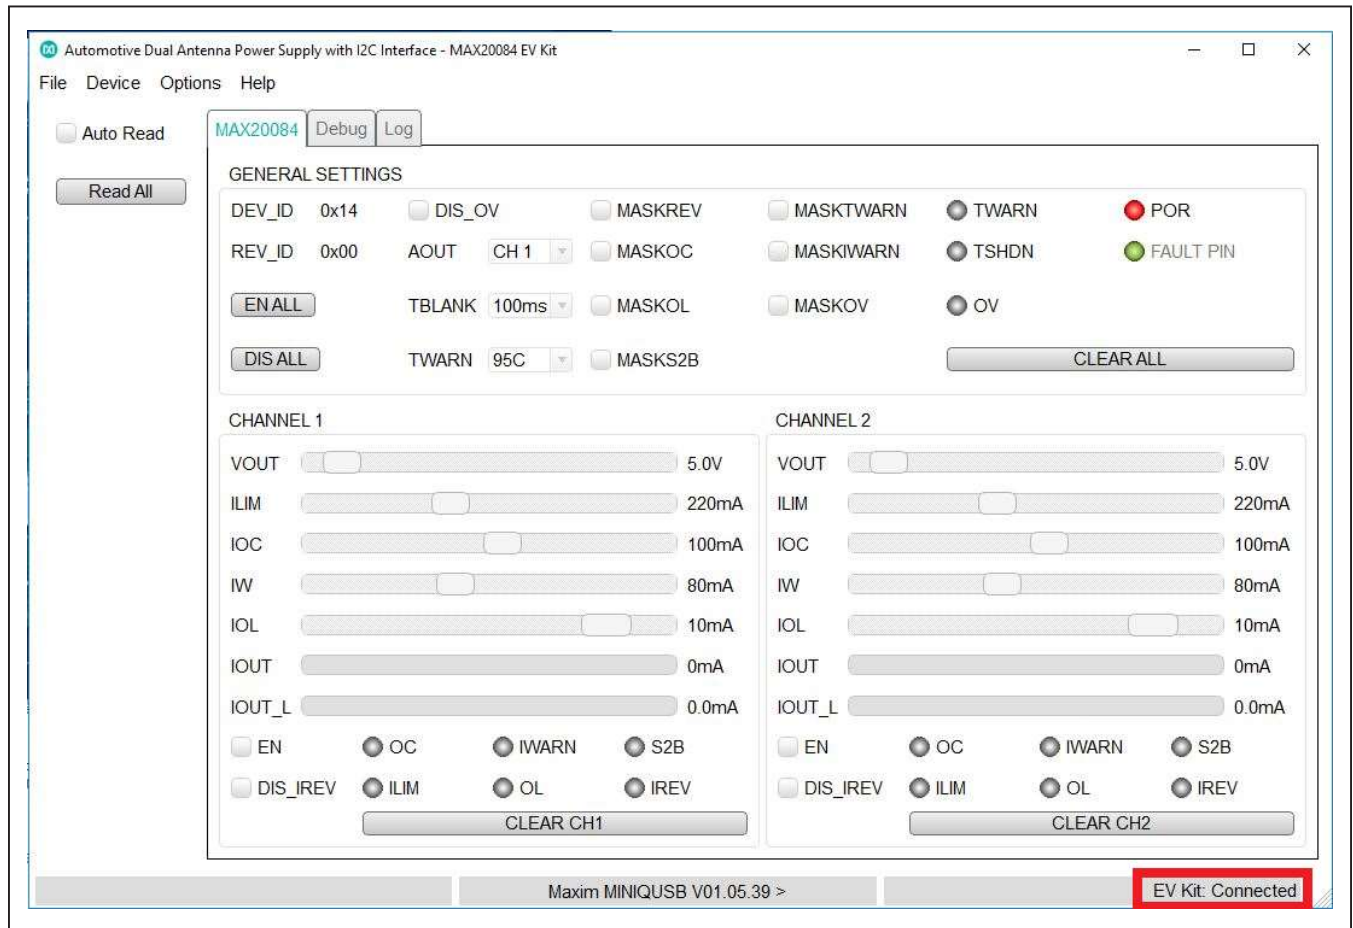

Figure 1. MAX20084 Evaluation Kit Software (GUI)
- 10) Verify that the status bar in the bottom-right corner of the GUI displays **EV Kit: Connected**, as shown in Figure 1.